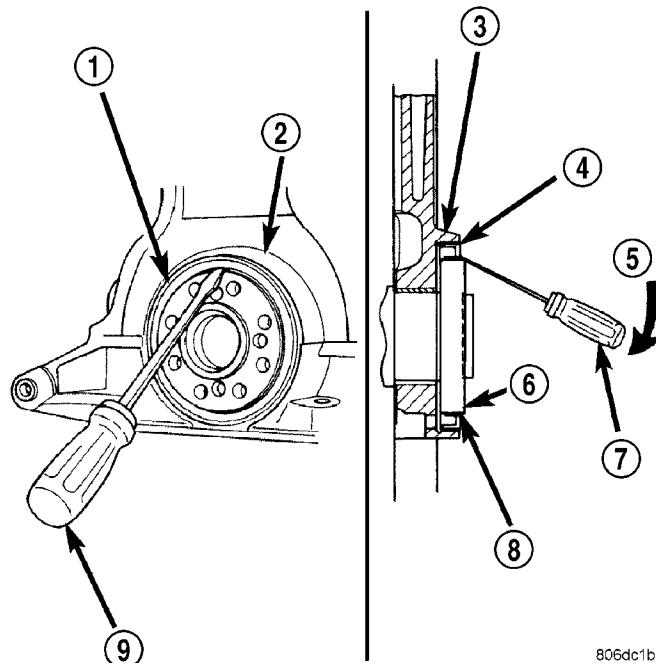

Fig. 75 Rear Crankshaft Oil Seal Removal - Typical
(1) Remove transaxle from vehicle. (Refer to 21 - TRANSMISSION/TRANSAXLE/AUTOMATIC - 42LE - REMOVAL)
(2) Remove drive plate.
(3) Insert a 3/16" wide flat bladed screwdriver between the dust lip and the metal case of the crankshaft seal. Angle the screwdriver (Fig. 75) through the dust lip against the metal case of the seal. Pry out seal.